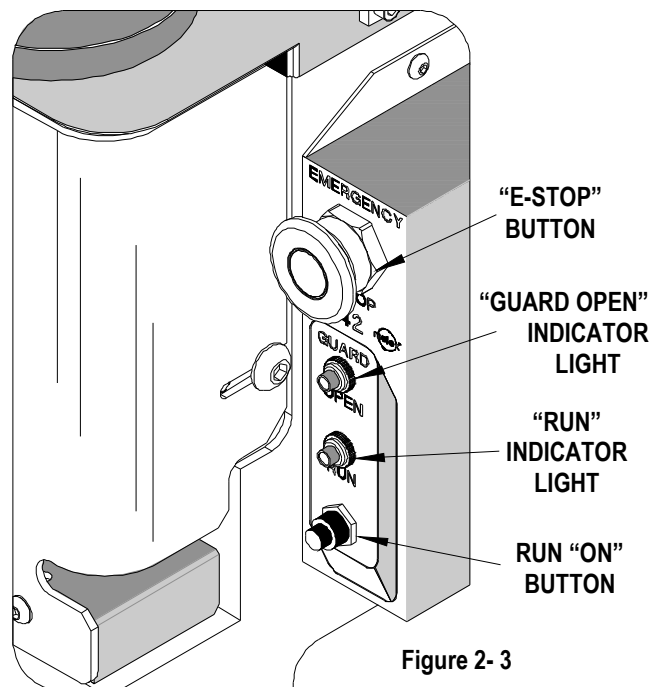

Figure 2-3
Never operate in areas of excess moisture or water. Check that all safety guards are in place. NEVER operate this press without press guards in place. The guard indicator light is located on the front of the press control assembly. See Figure 2-3.
5. Check that the press position is located approximately 150.00mm (6.00") from the edge of the bench. A chair or stool with adjustable height and backrest should be provided for maximum comfort and back support for the operator. Observe where the emergency stop button is on the control panel. See Figure 2-3.